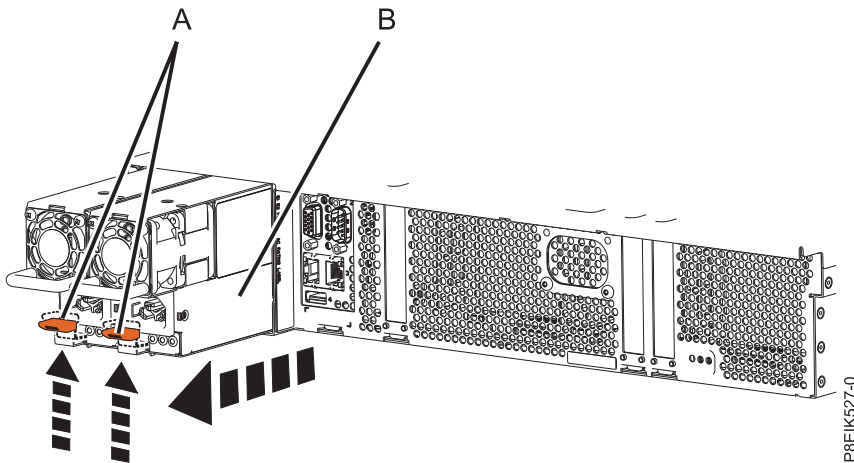

Figure 45. Removing a power supply from the system
- a. To unseat the power supply from its position in the system, pull up the terracotta locking-tab (A). See Figure 45.
- b. Grasp the power supply handle with one hand, and pull the power supply (B) part of the way out of the system.